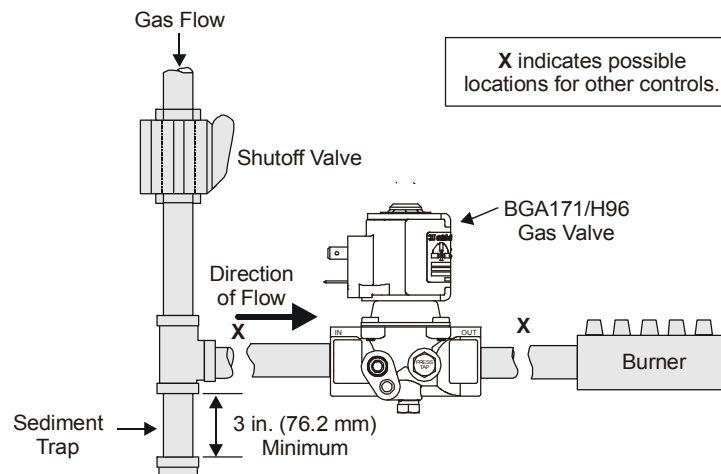

Figure 3: Typical BGA171/H96 Installation
7. Installer must be a trained, experienced, flame safeguard control technician. Threads of the pipe and nipples must be smooth and free of tears and burrs. Steam clean all piping to remove foreign substances such as cutting oil or thread chips. A sediment trap should also be installed in accordance with the National Fuel Gas Code NFPA 54 (see Figure 3). Mount the valve to the pipework, use a quality rated pipe tape, UL listed seal material rated for gasoline, propane, and other gases. If not available, a quality grade pipe dope, a light amount on the male threads, starting two threads away from the first engaging thread. If pipe dope lodges on the valve seat, it will prevent proper closure. Remove excess compound after mounting the valve to the pipework.